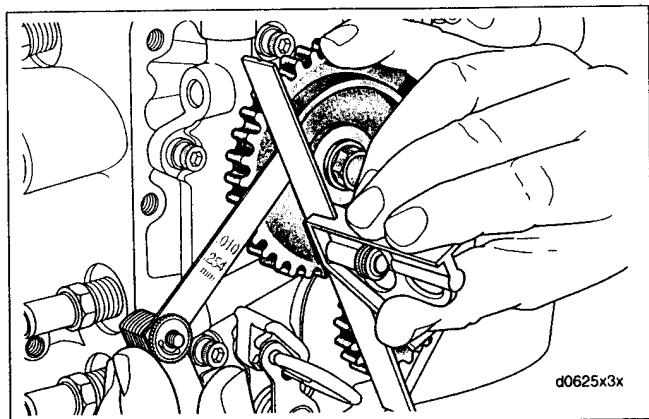

Figure 3-72. Check Alignment of Crank and Rear Cam Sprocket Faces
c. See Figure 3-72. To prevent rotation, position the CRANKSHAFT/CAMSHAFT SPROCKET LOCKING TOOL (Part No. HD-42314) between the crank and primary cam sprockets. The handle of the tool is stamped "Crank" and "Cam" to ensure proper orientation. Tighten the crank and primary cam sprocket flange bolts to 15 ft-lbs (20.3 Nm). Remove the sprocket locking tool.